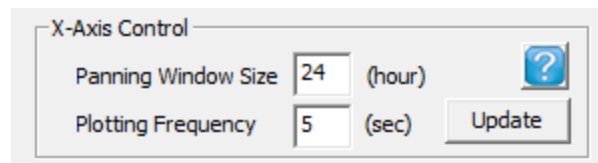
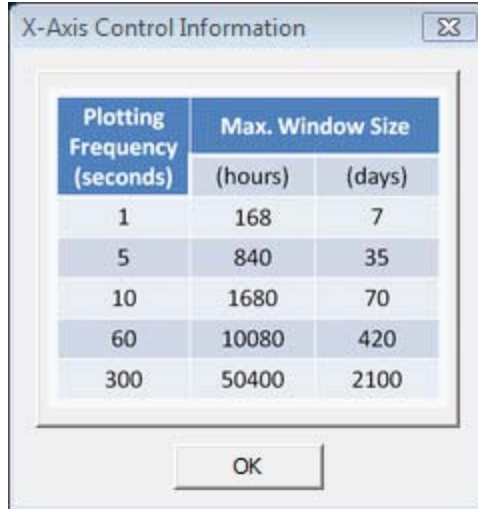

Figure 9: X-Axis Control panel
Figure 10: X-Axis Control Information
X-Axis Control allows users to adjust the size of plot window and the frequency of plotting (Figure 9). A maximum number of plotting points is implemented to ensure that plotting resources do not cause excessive CPU consumption. X-Axis Control Information (Figure 10) is shown whenever this maximum is exceeded. Adjust the display parameters to comply with the number of plotting point's constraint.
- **?:** This button will show the X-Axis Control Information as illustrated in Figure 10.